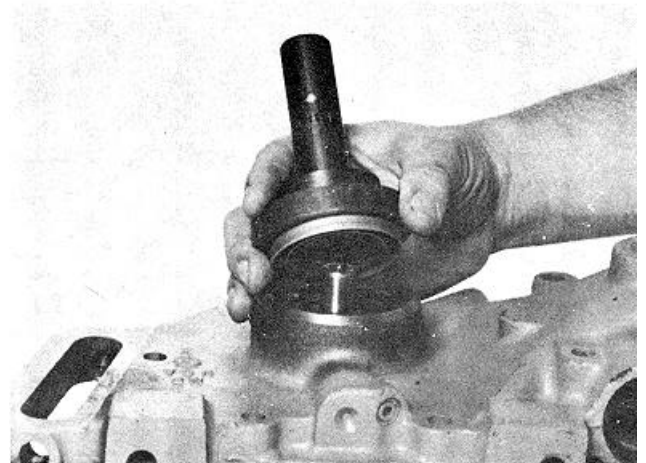

Fig. 8-49 (N10890). Install The Seal Into The Housing.
16. Install the front grease seal (4, Fig. 8-34) into the water pump housing. The lip of the seal must be toward the bearing. The seal must be installed so it is even with the top edge of the bore. Use the Part No. ST-1191 Seal Driver to install the seal, Fig. 8-49.